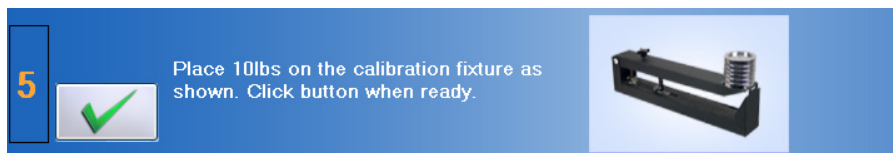

Figure 5-12. Hand Grip - Verify the Weight
Step 7. Click on  to verify the weight (Figure 5-12).